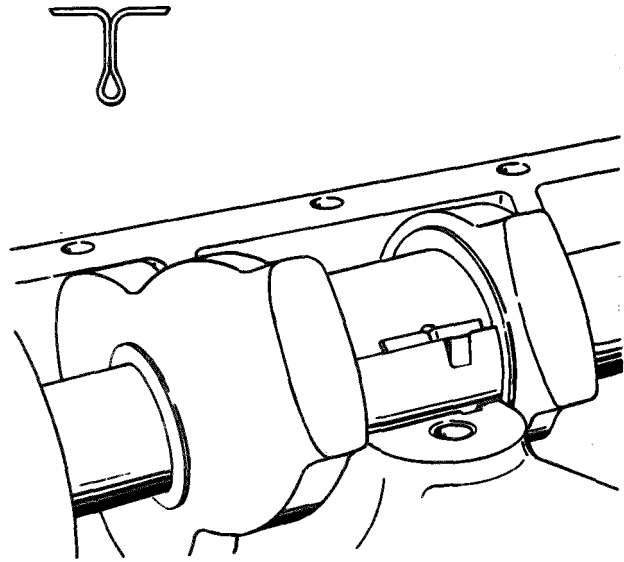

Figure 3-35. Upper Main Bearing Removal and Installation
f. To remove upper main bearings (4 and 6), without removing crankshaft, insert a small tee-shaped pin in crankshaft oil hole. Rotate crankshaft (42) so that pin will push upper main bearing (4 and 6) out, as shown in figure 3-35. If crankshaft is to be removed, remove upper bearings after removing crankshaft.
The upper main bearing (4 and 6) can be installed with crankshaft in place. Install a small tee-shaped pin into the crankshaft oil hole. After starting the bearing into place, rotate the crankshaft to seat it on the cylinder block, as shown in figure 3-35.